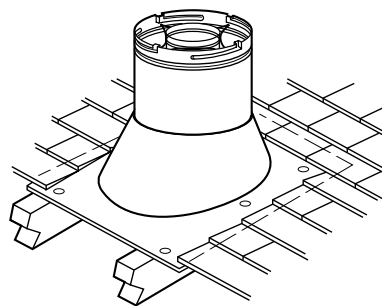

Figure 29
I. Install the roof flashing - Extend the vent sections through the roof structure. Install the roof flashing over the vent section and position such that the vent column rises vertically (use carpenter's level) (Figure 29). Nail along perimeter to secure flashing or adjust roofing to overlap the flashing edges at top and sides only and trim where necessary. Seal the top and both sides of the flashing with waterproof caulking.